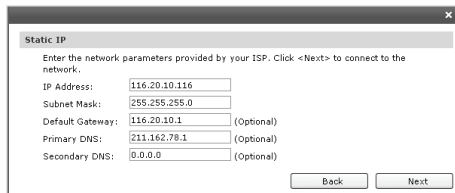

Figure 5-11 WAN Connection Type - Static IP
3) If you choose Static IP, you should enter the detailed IP information provided by your ISP in Figure 5-11.